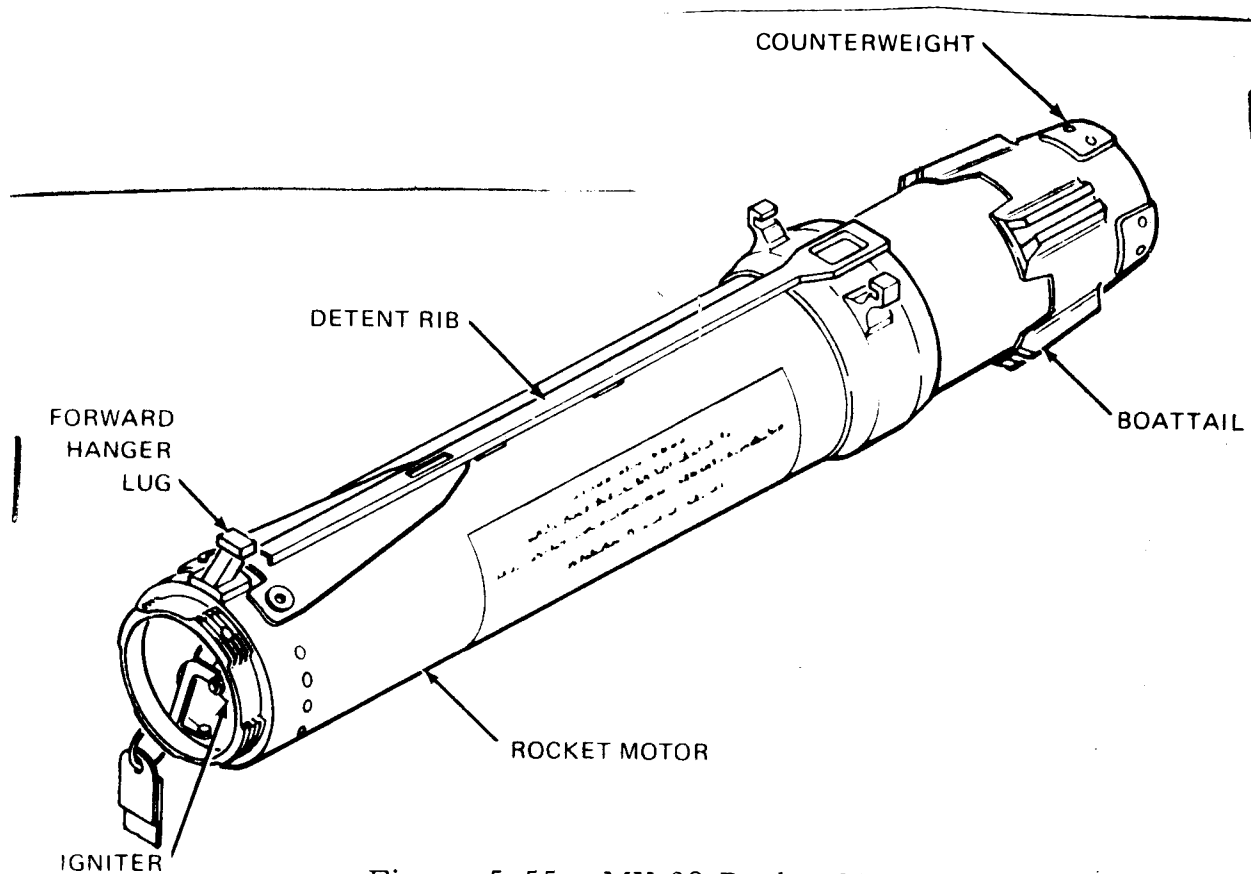

Figure 5-55. MK 39 Rocket Motor
- a. MK 39 Rocket Motor: Contains approximately ⁹⁵91 pounds of propellant (reference figure 5-55).